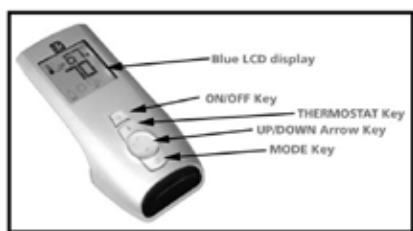
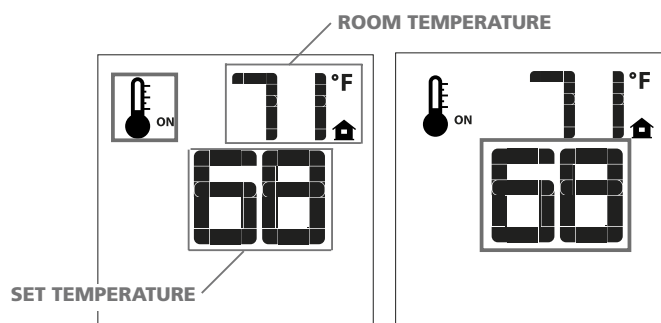
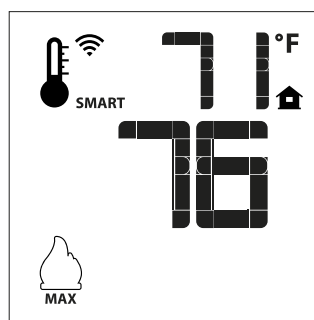
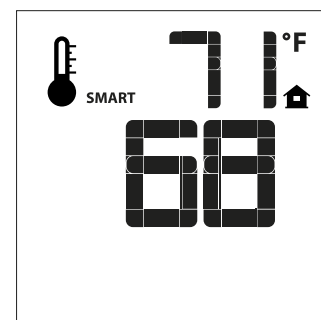

Figure 1 - Proflame Transmitter
Figure 5
Figure 6 - Smart Flame Function
Figure 7
The Proflame Transmitter uses a streamline design with a simple button layout and informative LCD display (Fig. 1).
A Mode Key is provided to Index between the features and a Thermostat Key is used to turn on/off or index through Thermostat functions (Fig. 1 & 2).
Press the ON/OFF Key on the Transmitter. The Transmitter LCD display will only show the room temperature and Icon (Fig. 7). At the same time the Receiver disconnects the thermopile from the gas valve millivolt coil and the appliance burner turns off. A single "beep" from the Receiver confirms reception of the command.
The Remote Control can operate as a room thermostat. The thermostat can be set to a desired temperature to control the comfort level in a room. To activate this function, press the Thermostat Key (Fig. 1). The LCD display on the Transmitter will change to show that the room thermostat is "ON" and the set temperature is now displayed (Fig. 5). To adjust the set temperature, press the Up or Down Arrow Keys until the desired set temperature is displayed on the LCD screen of the Transmitter.
The Smart Thermostat function adjusts the flame height in accordance to the difference between the set point temperature and the actual room temperatures. As the room temperature gets closer to the set point the Smart Function will modulate the flame down. To activate this function, press the Thermostat Key (Fig. 1) until the word "SMART" appears to the right of the temperature bulb graphic (Fig. 6). To adjust the set temperature, press the Up or Down Arrow Keys until the desired set temperature is displayed on the LCD screen of the Transmitter (Fig. 7).
If the appliance is equipped with a hot air circulating fan, the speed of the fan can be controlled by the Proflame system. The fan speed can be adjusted through six (6) speeds. To activate this function use the Mode Key (fig.1) to index to the fan control icon (Fig. 8). Use the Up/Down Arrow Keys (Fig.1) to turn on, off or adjust the fan speed (Fig. 9). A single "beep" will confirm reception of the command.
The auxiliary function controls the AUX power outlet on the Fan Control Module. To activate this function use the Mode Key (fig. 1) to index to the AUX icon (fig. 10 & 11). Pressing the Up Arrow Key will activate the outlet. Pressing the Down Arrow Key will turn the outlet off. A single "beep" will confirm the reception of the command.